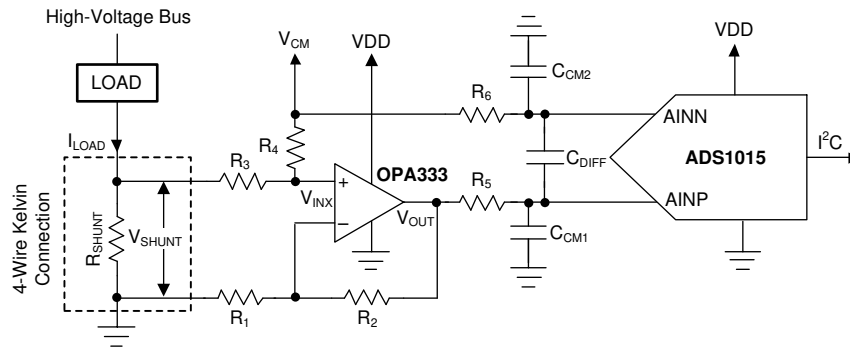

Figure 9-6. Low-Side Current Shunt Monitoring
Shunt-based, current-measurement solutions are widely used to monitor load currents. Low-side, current-shunt measurements are independent of the bus voltage because the shunt common-mode voltage is near ground. Figure 9-6 shows an example circuit for a bidirectional, low-side, current-shunt measurement system. The load current is determined by measuring the voltage across the shunt resistor that is amplified and level-shifted by a low-drift operational amplifier, OPA333. The OPA333 output voltage is digitized with ADS1015 and sent to the microcontroller using the I²C interface. This circuit is capable of measuring bidirectional currents flowing through the shunt resistor with great accuracy and precision.
1. To level-shift the ground-referenced signal to allow bidirectional current measurements while running off a unipolar supply. The voltage across the shunt resistor, V_{SHUNT} , is level-shifted by a common-mode voltage, V_{CM} , as shown in Figure 9-6. The level-shifted voltage, V_{INX} , at the noninverting input is given by Equation 3.
A shunt resistor (R_{SHUNT}) is an accurate resistance inserted in series with the load as described in Figure 9-6. If the absolute voltage drop across the shunt, $|V_{SHUNT}|$, is a larger percentage of the bus voltage, the voltage drop can reduce the overall efficiency and system performance. If $|V_{SHUNT}|$ is too low, measuring the small voltage drop requires careful design attention and proper selection of the ADC, operation amplifier, and precision resistors. Make sure that the absolute voltage at the shunt terminals does not result in violation of the input common-mode voltage range requirements of the operational amplifier. The power dissipation on the shunt resistor increases the temperature because of the current flowing through the resistor. To minimize the measurement errors resulting from variation in temperature, select a low-drift shunt resistor. To minimize the measurement gain error, select a shunt resistor with a low tolerance value. To remove the errors caused by stray ground resistance, use a four-wire Kelvin-connected shunt resistor; see Figure 9-6.